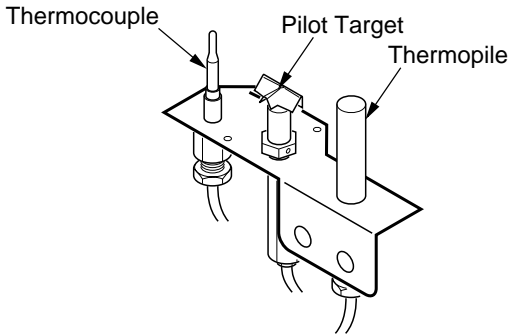

Figure 16 - Pilot Target Alignment
9. Replace pilot target removed in step 5. Tighten pilot target hex fitting until the pilot target aligns with the thermocouple and thermopile (see Figure 16, page 9).